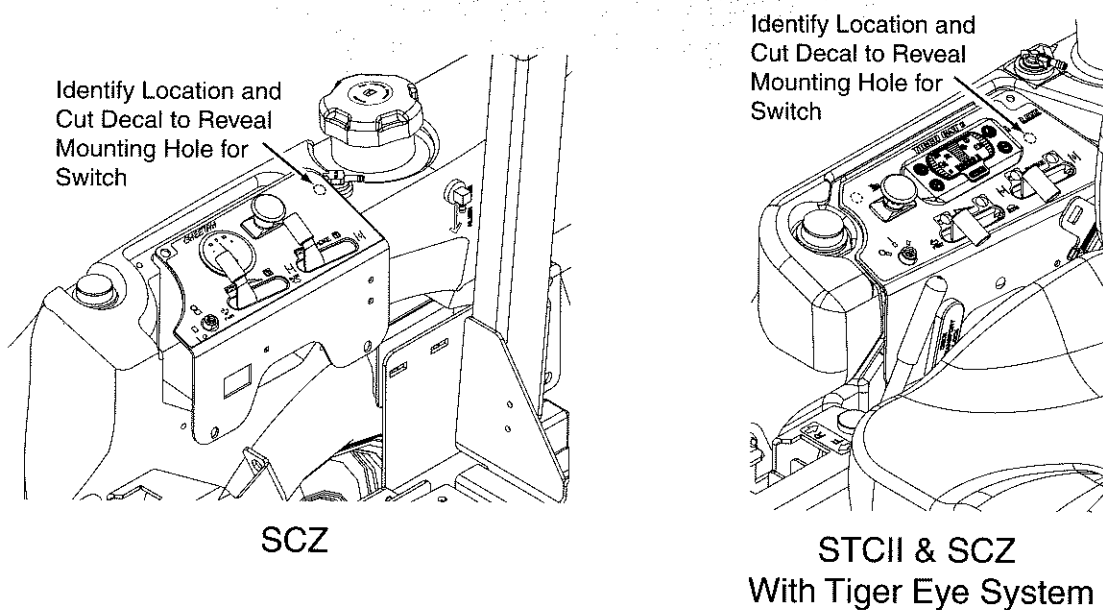

Figure 4. Reveal Mounting Hole for Switch
- Remove the dash panel from the right hand fuel tank. Identify the location of the hole provided in the panel. Carefully cut the dash panel decal to reveal the mounting hole for the light switch. See Figure 4.